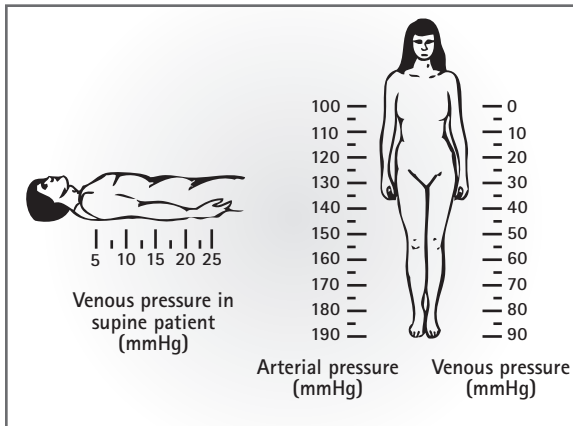

Figure 1: Pressures and the Human Body
2. Current PSI of the patient? (see *Figure 1*)